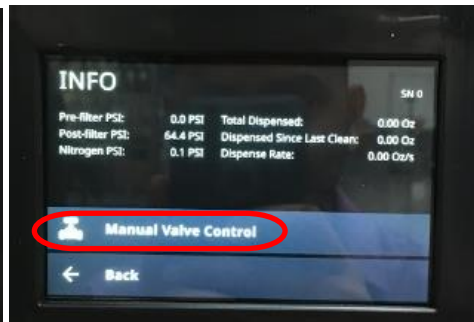

Figure 11: Machine Info Screen with Manual Valve Control Circled.
- ii. Select MANUAL VALVE CONTROL. See **Figure 11**.